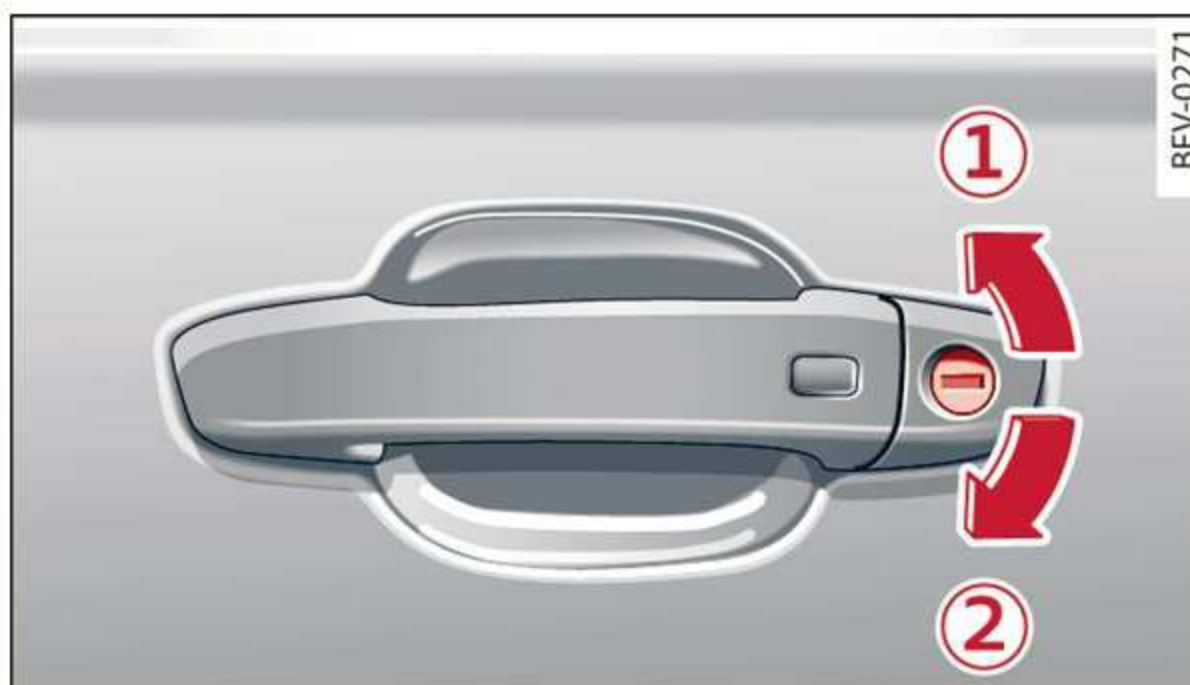

Fig. 28 Turning the key to open and close
- ▶ Turn the key once in the driver door lock to the unlock position ① ⇒ *fig. 28*.
- ▶ Turn the key once in the driver door lock to the lock position ② ⇒ *fig. 28*.